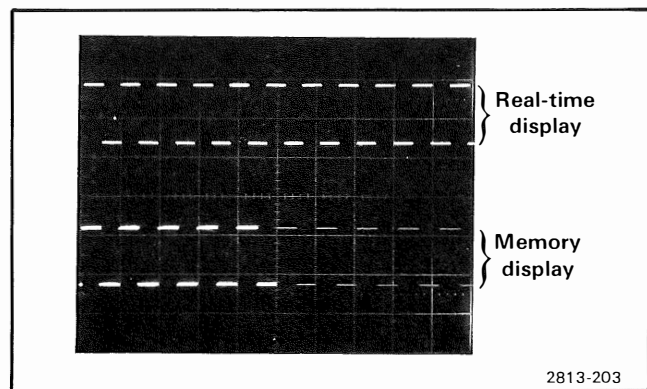

Figure 2-3. Real-time and memory displays of 5223 Calibrator signal with PRETRIGGER control set to about 50% .
7. Observe that turning the PRETRIGGER control counterclockwise from 0% causes the memory display to move across the screen from left to right. The part of the display that occurred before the trigger point is brighter than the part that occurred after the trigger point. You can verify this by varying the setting of the 5223 Mem Inten control. Figure 2-3 shows a typical display with the PRETRIGGER control set to about 50% .